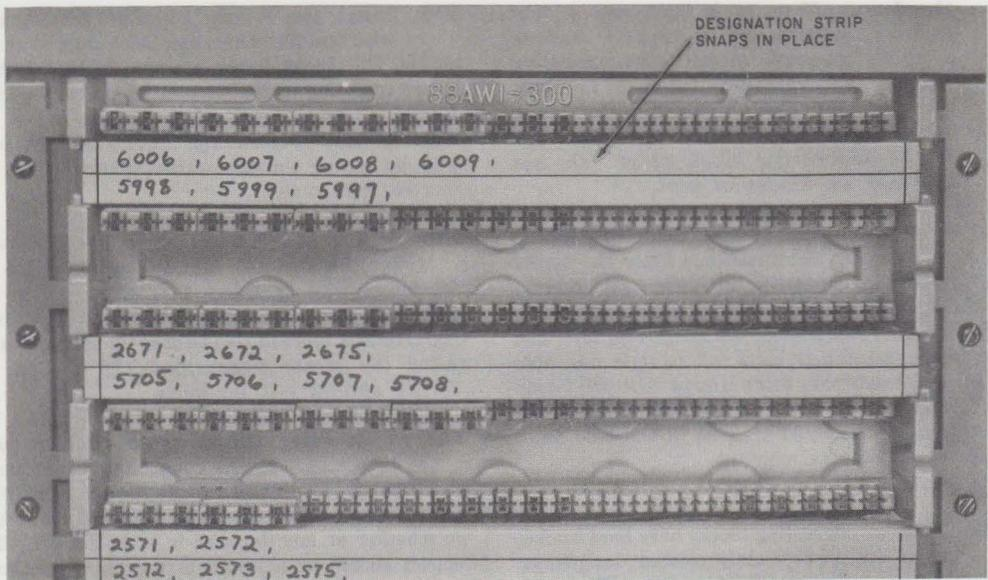

Fig. 22—Marked Designation Strips on Wiring Block
3.18 After all connecting blocks have been seated, snap the appropriately colored designation strip in the wiring block (Fig. 22). Mark the designation, as required, for later identification of lines or stations.